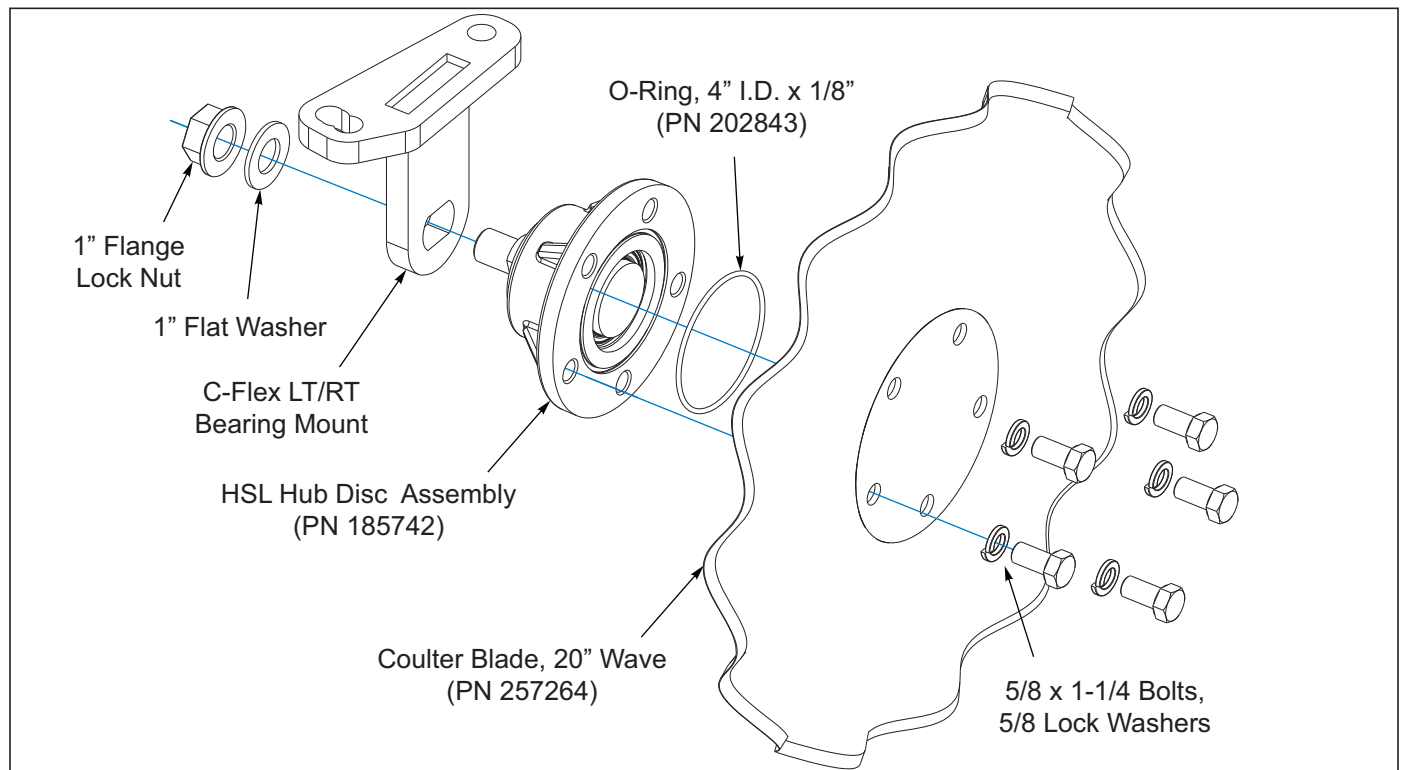

Figure 4-16: Hyd Disc Lev/Reel Disc Hub Bearing
1. The replacement hub and bearing assembly is available as a pre-assembled assembly, Landoll 210880 for your convenience. Should you choose, the wear parts are also available in a kit to re-build the disc hub. Landoll kit 219945 includes the essential wear parts to rebuild a disc hub in the field **See Figure 4-16**. When rebuilding disc hubs in the field it is highly recommended that you obtain a die, Landoll 218733, to assist in the proper assembly of the components in the hub assembly. Landoll Corporation will not accept responsibility for, or warranty hub assemblies re-built in the field.